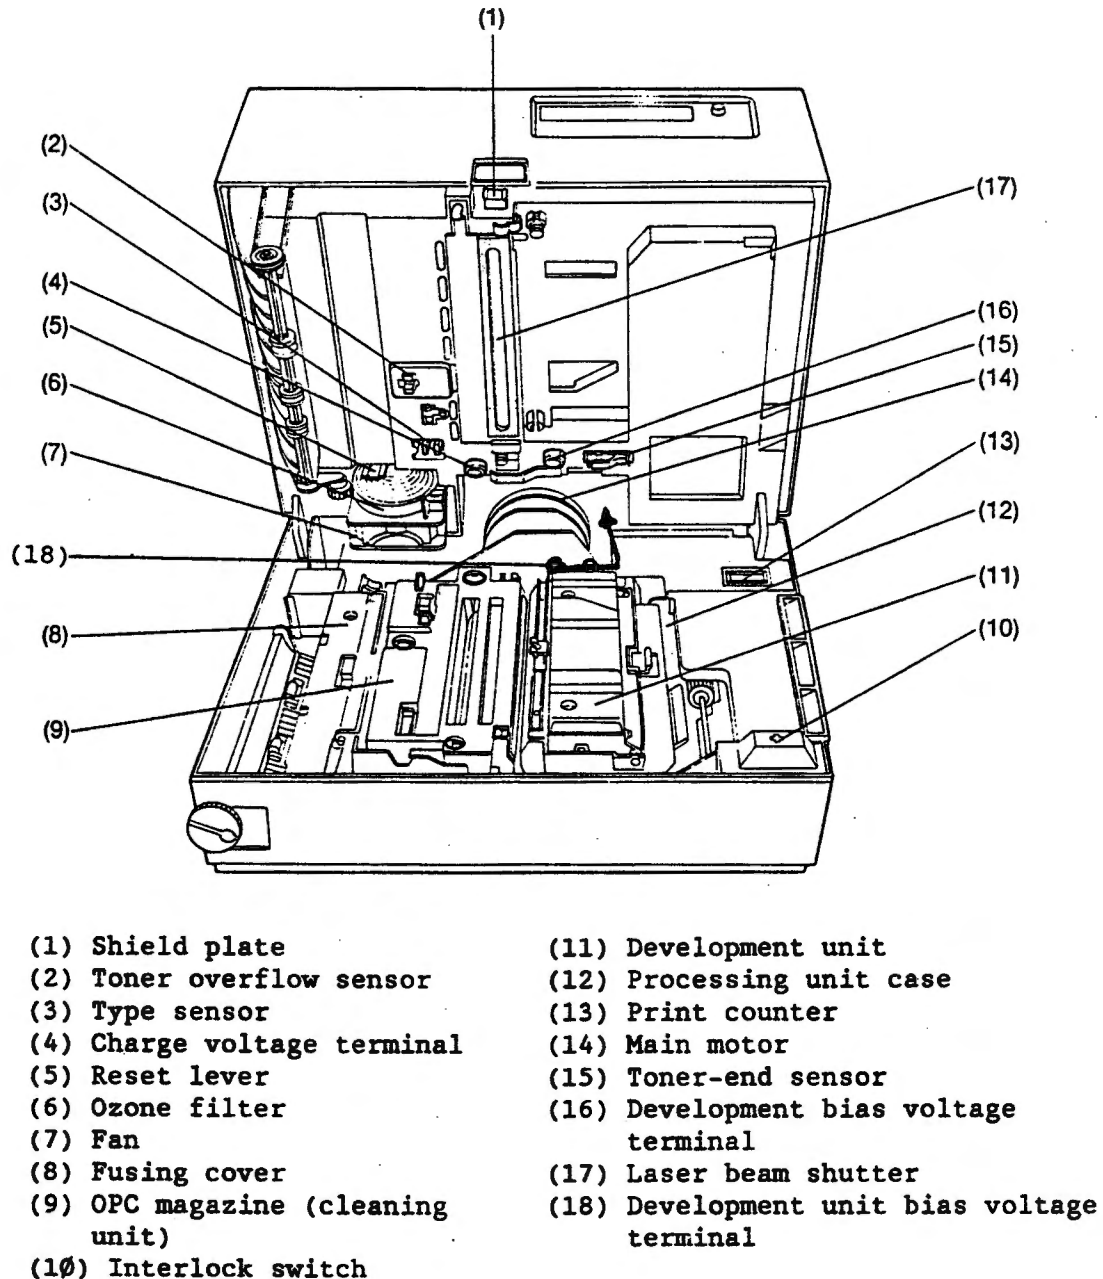

Figure 1
5. Figure 1 shows the location of many internal components of the laser printer. When the top half of the printer is closed, the development bias voltage terminal (item 16) makes contact with the development unit bias voltage terminal (item 18).